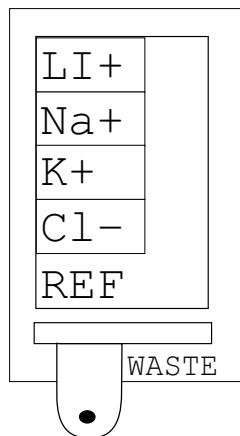

Figure 92 Order for positioning the different electrodes
7. To put the electrodes back in position, press the yellow button down and first insert the reference electrode and then the other electrodes, in the order shown in Figure 92.